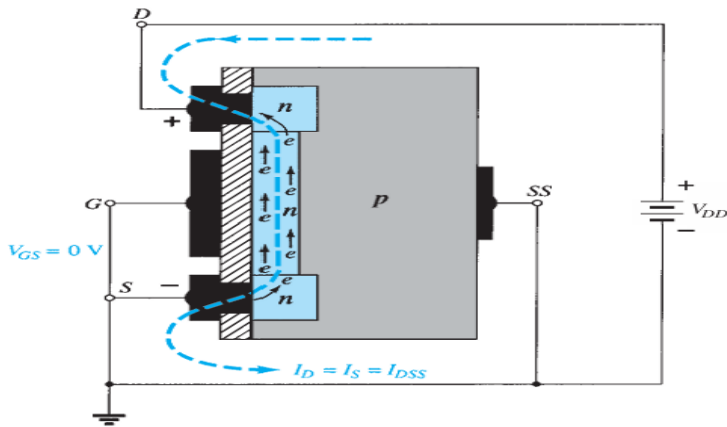

Figure 16: Drain and transfer characteristics for an n-channel depletion-type MOSFET
- In Fig. 16, V_{GS} is set at a negative voltage such as -1 V. The negative potential at the gate will tend to pressure electrons toward the p-type substrate (like charges repel) and attract holes from the p-type substrate (opposite charges attract) as shown in Fig. . Depending on the and holes will occur that will reduce the number of free electrons in the n -channel available for conduction.